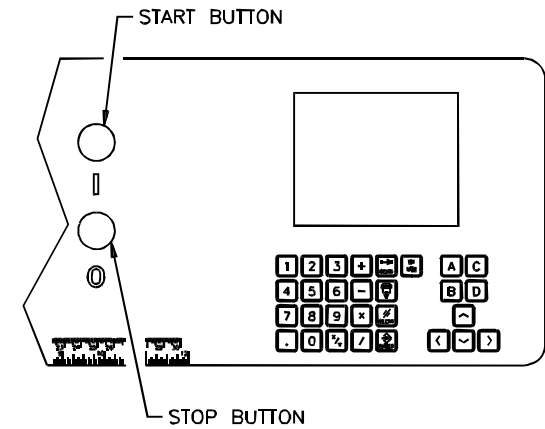

Figure 2-22. CMT 130 Console
11. Press the green start button key on the console, shown in Figure 2-22. The hydraulic motor should turn on. The machine was shipped with all three knives in the down position. If power is hooked up correctly, the knives will automatically raise to the up position. If power is incorrectly connected, the knives will remain in the down position. Continue at step 12 if the knives do not